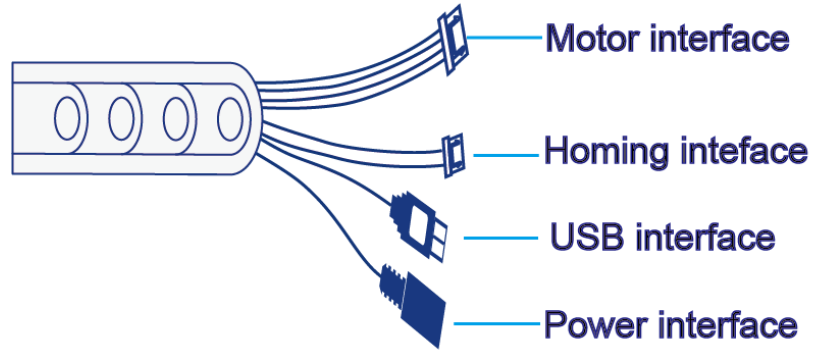

Figure 1.9 Interfaces on the other end of the wire set
**Step 6** Connect the interfaces on the other end of the wire set to the power adaptor, USB interface of PC, motor interface and homing interface of the sliding rail respectively. Figure 1.9 shows the interfaces on the other end of the wire set.